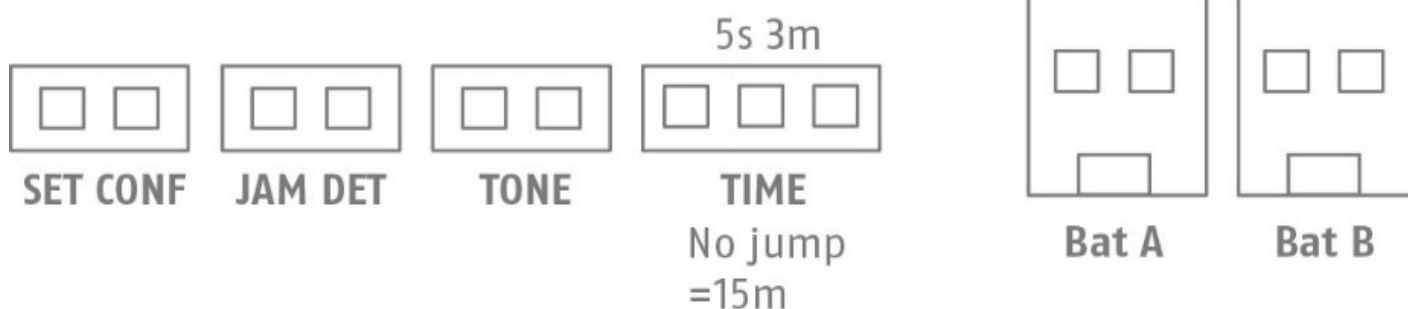

Figure 3: Jumpers and connectors
- Set all the jumpers in the sounder to the desired positions (see Fig. 3).